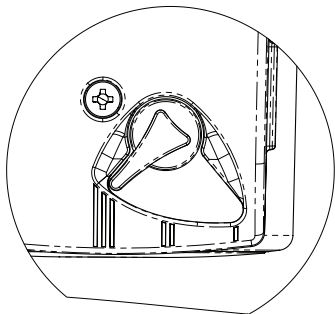

Figure 15-2: Pump speed setting
4. Verify boiler and system are full of water and pressurized. Verify pump speed is set to 3. (Figure 15-2) Pump located on right side of boiler.